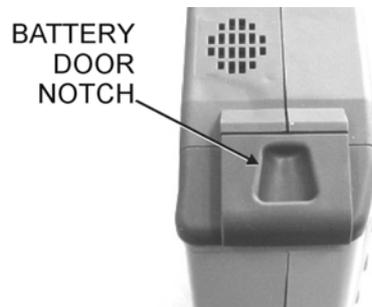

Figure 4-2. Battery Access Door Notch
2. Place a finger in the battery access door notch and push the door down towards the bottom of the instrument, as illustrated in Figure 4-2.